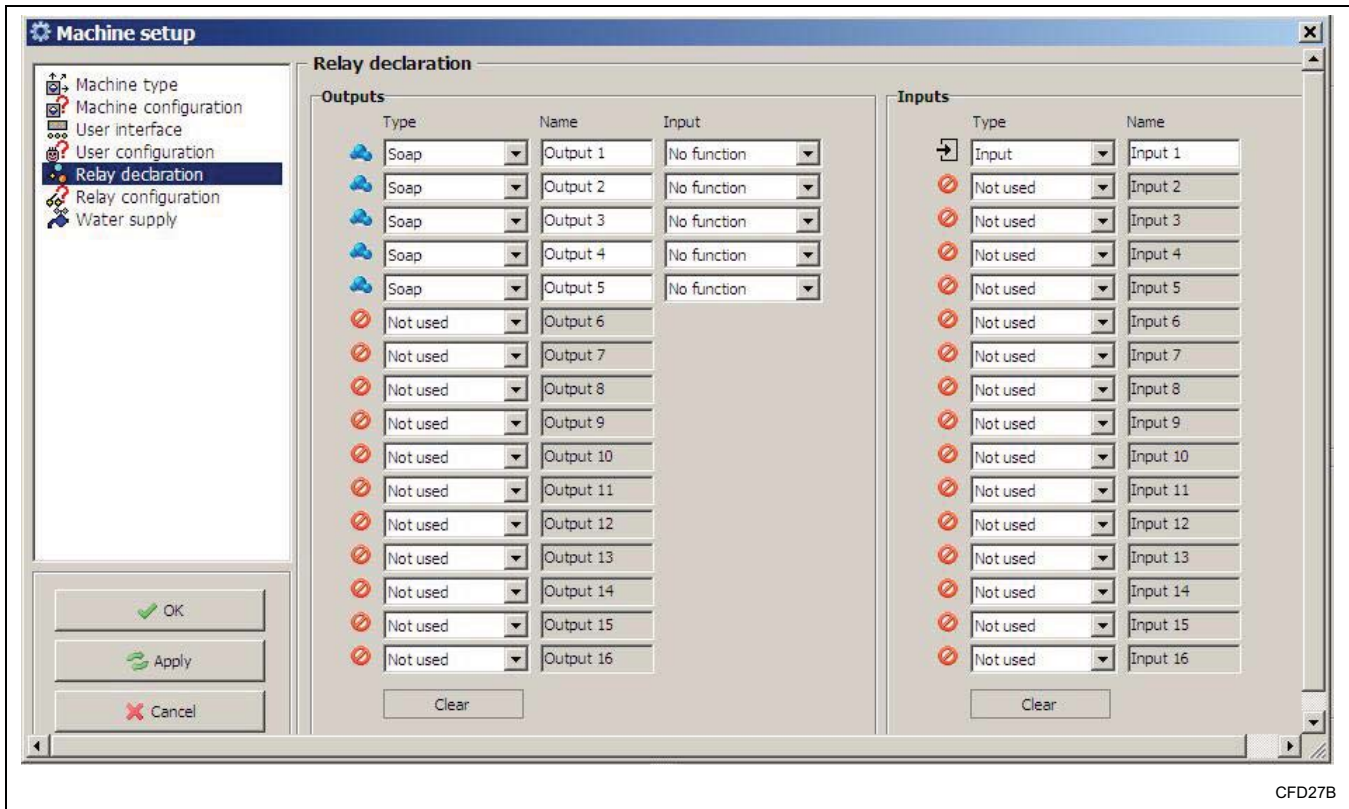

Figure 4
4. In the *Relay declaration* portion of the *Machine setup* menu, activate outputs 1 through 5 by selecting **Soap** from the *Type* drop-down menus. If desired, enter each output's name in the Name textboxes. Refer to *Figure 4*.
5. If an input is used, activate input 1 by selecting **Input** from the *Type* drop-down list. If desired, enter the input's name in the Name textbox. Refer to *Figure 4*.